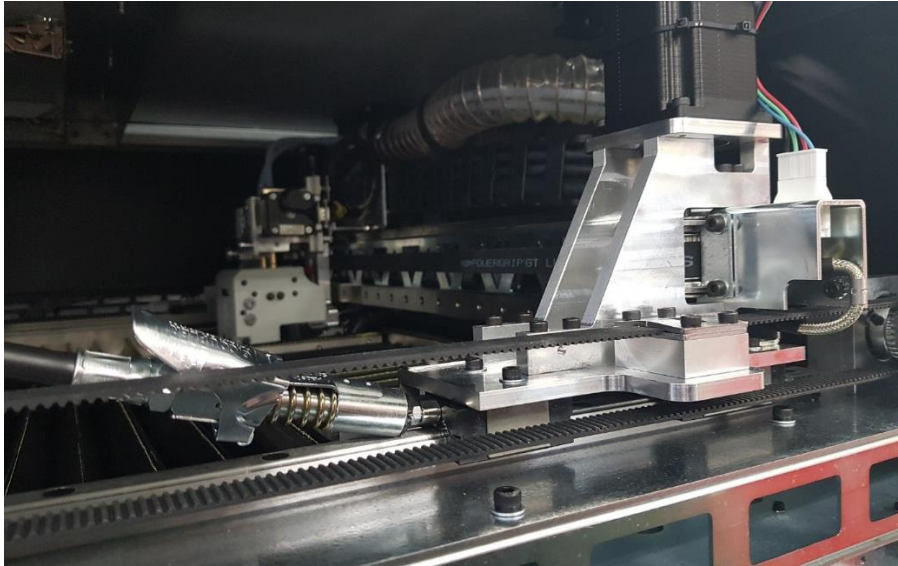
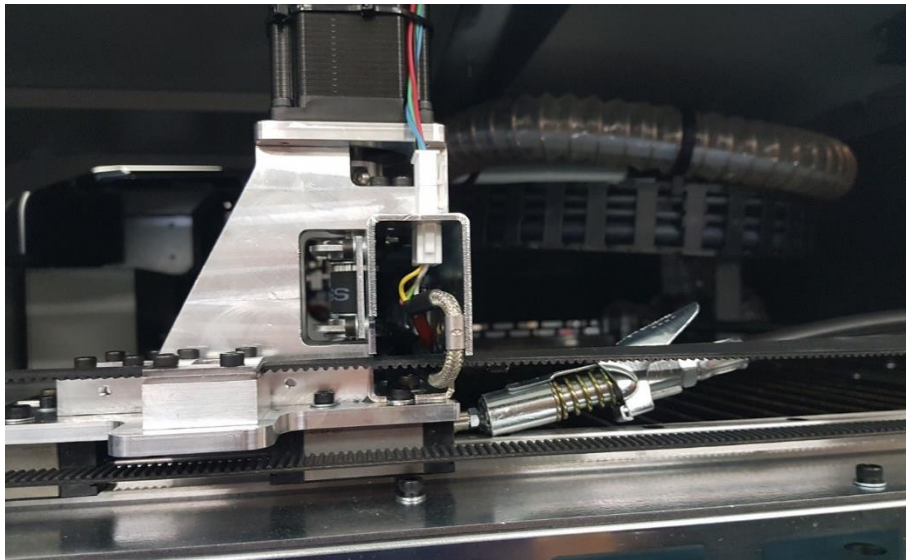

Fig. 101 Lubricate the grease nipples on the right side of the printer
Fig. 102 Lubricate the grease nipples on the right side of the printer
7. Press a small amount of grease into the grease nipple on the left and then the right side as in Fig. 101 and Fig. 102.